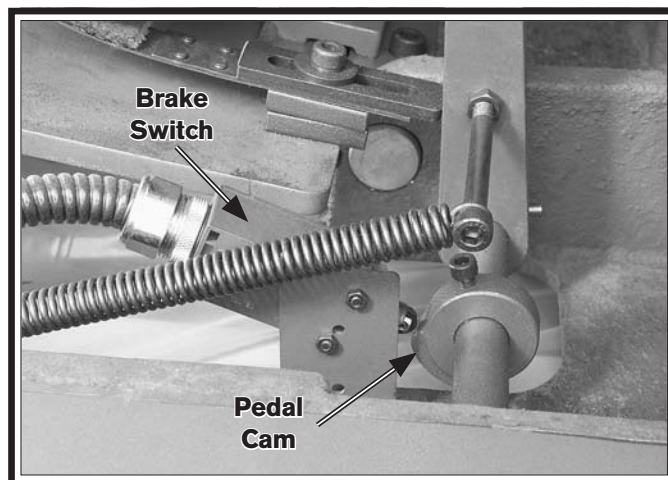

Figure 128. Brake switch and pedal cam.
9. Locate the brake switch shown in **Figure 128**.